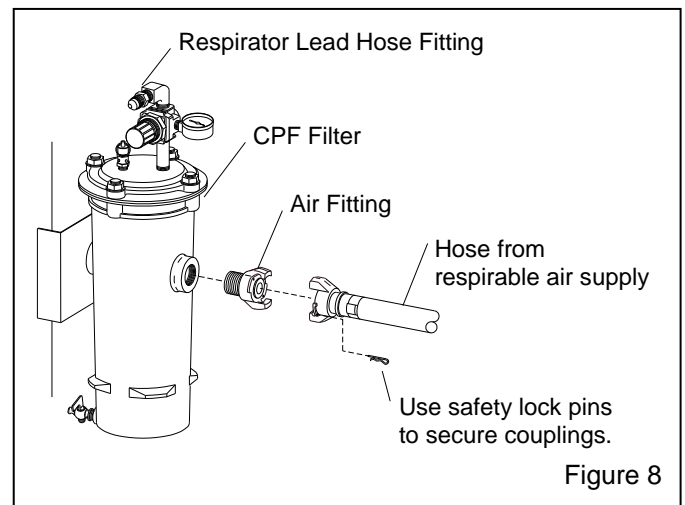

Figure 8
**2.6.2** Apply thread sealant to the male threads of an air fitting that is compatible with the air supply hose fitting, as noted in Section 2.6.3, and install it onto the 1-NPT port located at the side of the filter, as shown in Figure 8. Note that the style of connection shown is for reference only.
**2.6.3** Refer to the CPF air filter owner's manual and attach an air supply hose from an air source that meets OSHA requirements for respirable air, to the fitting installed on the CPF filter inlet, as shown in Figure 8 and noted in the CPF air filter owner's manual.